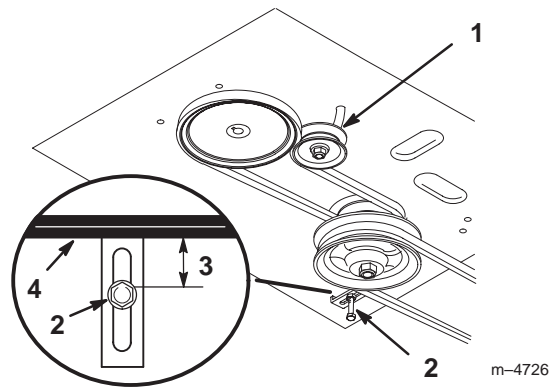

Figure 46
5. Install new belt around engine and drive pulleys (Fig. 46).
6. Slide idler pulley in engine frame to tension traction belt (Fig. 46).
8. Check the belt guides under the engine frame for proper adjustment (Fig. 46). The distance between the belt guide and mower belt should be 1-1/4 in. (32mm) when mower belt is engaged. Adjust as necessary. The disengaged belt should not drag or fall off pulley when guides are properly adjusted.
- Check the belt guide under the engine frame for proper adjustment (Fig. 46). The distance between the belt guide and mower belt should be $1-1/4$ in. (32 mm) when mower belt is engaged. Adjust as necessary. The disengaged belt should not drag or fall off pulley when guides are properly adjusted.